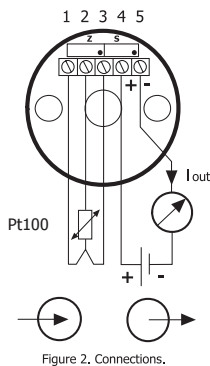

Figure 2. Connections.
Always use the cover when the transmitter is not in the configuration phase. The cover prevents the transmitter from getting dirt on the soldering pads as well as getting ESD by accidental touch of the soldering pads. Connect input, output and power supply acc. to fig. 2.
1. Connect the transmitter to power supply, an input source and an ampere meter as shown in figure 2.